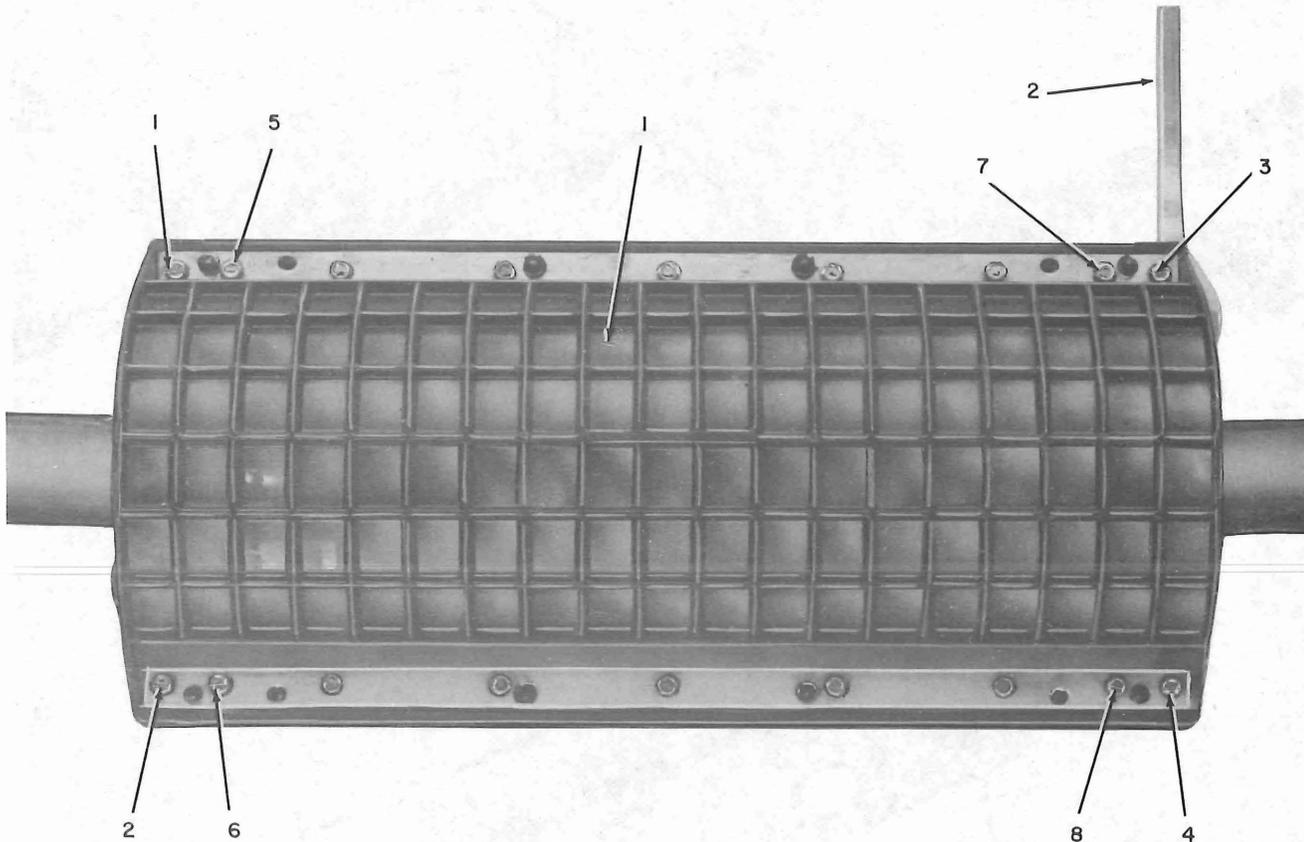

Fig. 40—Installed Closure
6. Place and secure front cover as outlined in Fig. 40.
4. Place and secure front cover half as outlined in Fig. 40.
7.01 When grounding is required, secure bonding ribbon to connector and manhole grounding system (Fig. 40).